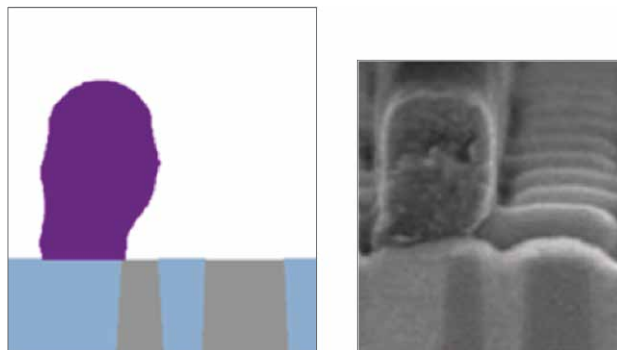

Figure 2: Resist 3D profile prediction on implant layer
- Accurate treatment of pre-patterned wafers, e.g. for implant layers (Figure 2) or wafer alignment marks